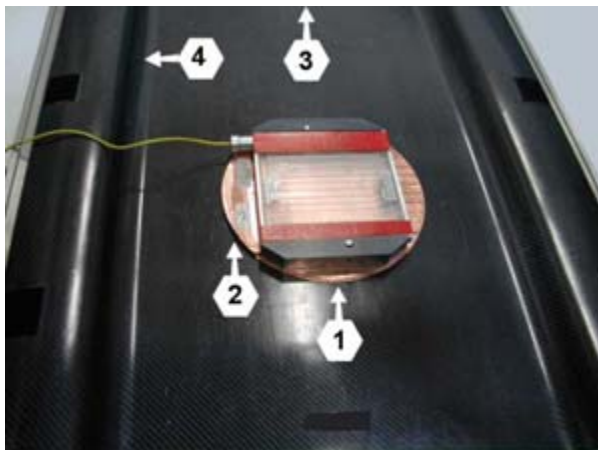

Fig. 1: Table
- Place the dynamic test without the holder but with the heart contour diaphragm and plexi capillary test on the table ((Fig. 1 / p. 24)).